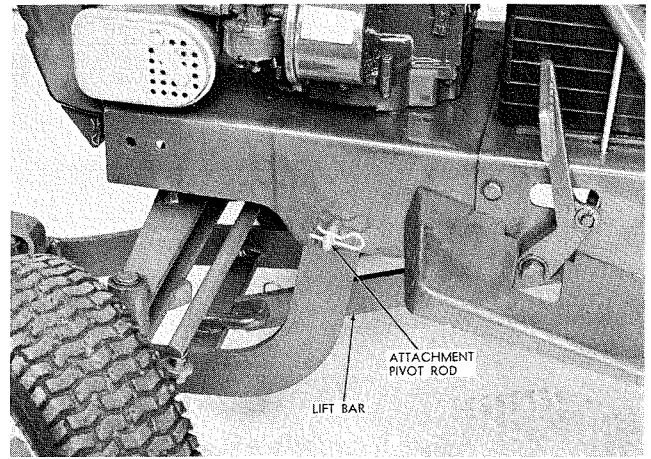

FIGURE 2
5. Remove a hairpin cotter and withdraw the attachment pivot rod, Figure 2. Raise the frame lift arms between the tractor frame side rails to align the attachment pivot holes with corresponding holes in the tractor frame. Reinsert the attachment pivot rod and secure with hairpin cottes.